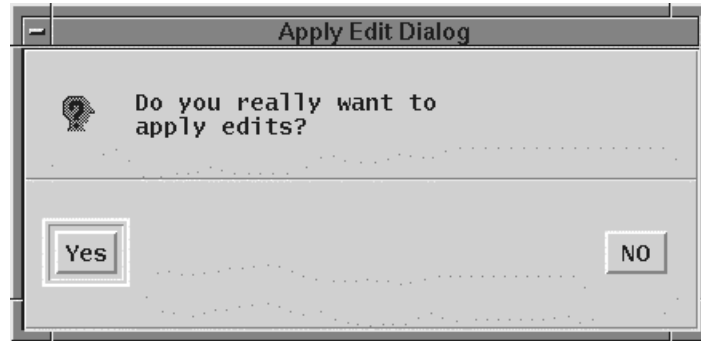

Figure 4.11.1-7. Apply Edit Dialogue Popup
- **Delete Account** (available only at SMC) -- a confirmation dialog appears before allowing the operator to delete an ECS account, including its DCE account and profile from the database. This confirmation dialogue is similar to that shown in Figure 4.11.1-7.
- **View Entire Profile** – view entire user profile in a one page screen as shown in Figure 4.11.1-8. This screen contains the information from the Personal Information subtab, Mailing Address subtab, Shipping Address subtab, and Billing Address subtab.